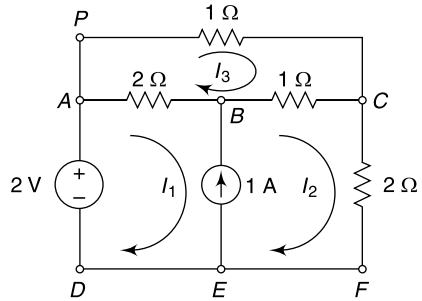

Fig. 4.121 Circuit of Ex. 4.90
4.90 From the circuit shown in Fig. 4.121, use loop analysis to determine the loop currents I_1 , I_2 , I_3 .
From Fig. 4.121 the current source of 1 A is equivalent to $(I_2 - I_1)$, i.e. $I_2 - I_1 = 1$ A. (i)